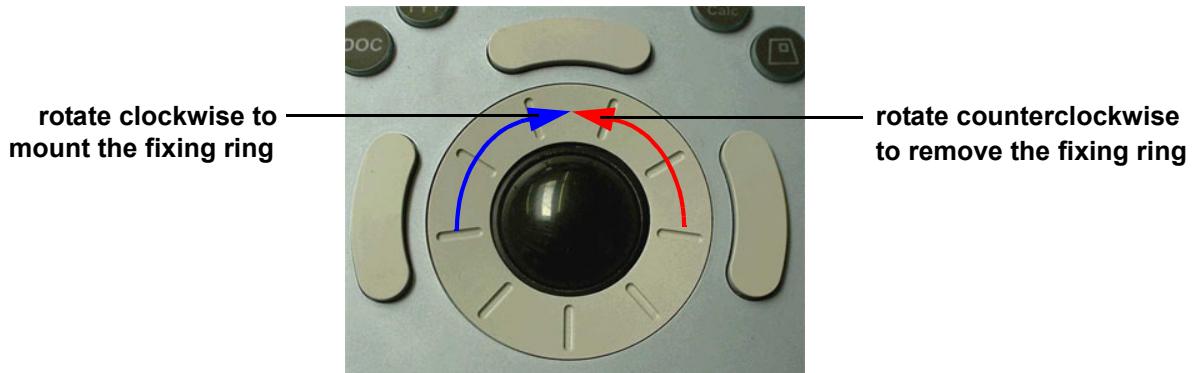

Figure 6-4 Trackball with fixing ring
- 3.) Mount the outer fixing ring by turning it clockwise. see Figure 6-4.